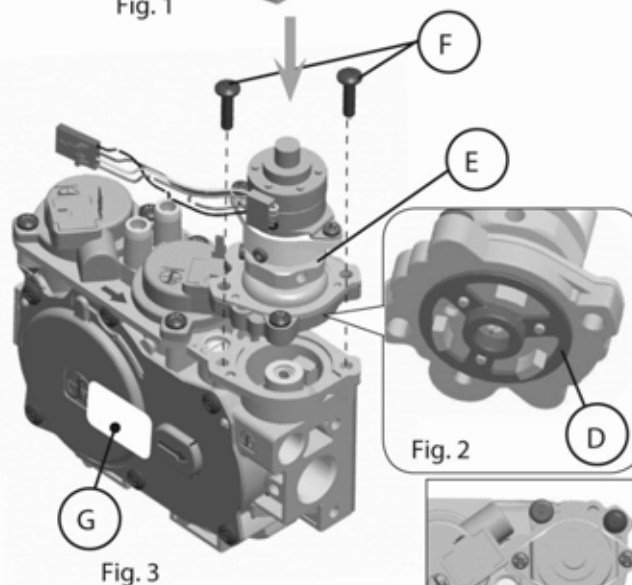
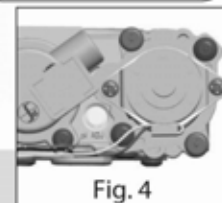

Fig. 3
Fig. 4
- 4 Install the new STEPPER MOTOR pressure regulator assembly, as shown in Fig. 3 and Fig. 4. Use the supplied screws (F), M4 x 0.7 threaded, length of thread $L=(16 \text{ mm} + 0 - 0.5 \text{ mm})$, steel material, resistance class 8.8 (see Fig. 5).